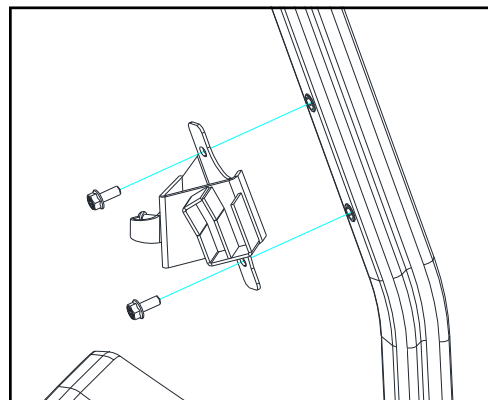

Fig. 2.1
2.1 Per Figure 2.1, fasten the left striker to the vehicle ROPS using the factory installed inserts and the hardware listed below. **Install finger tight at this time.**